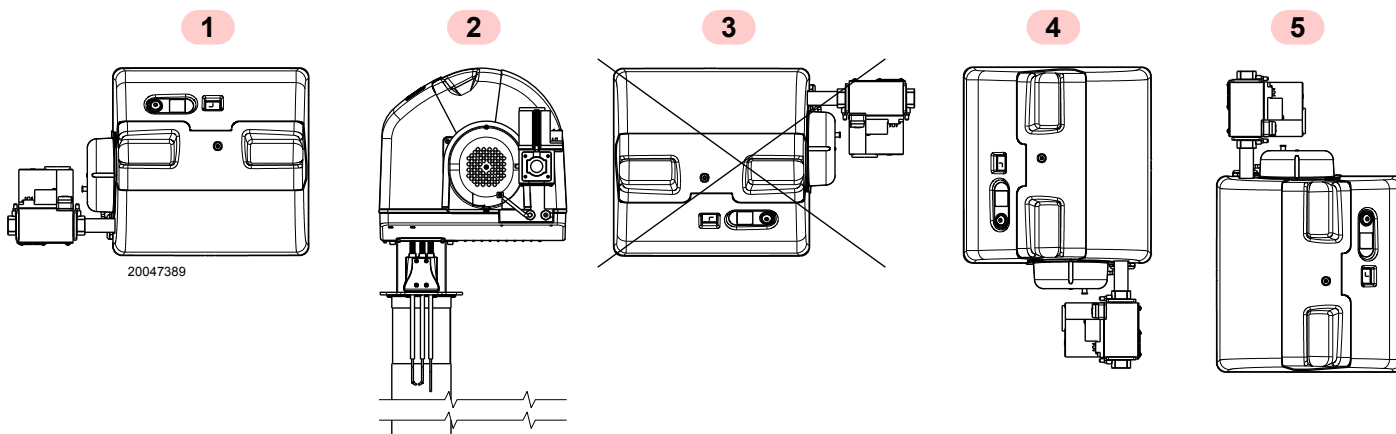

Fig. 11
- The burner is designed to operate only in positions 1, 2, 4 and 5 (Fig. 11).